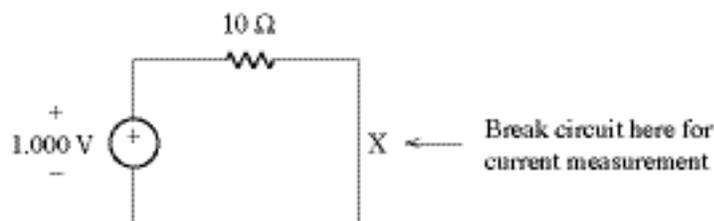

Figure 2: Circuit for Part B.
1. Obtain a  $10\text{-}\Omega$  resistor from a TA, then construct the circuit of Fig. 2. Use the + and - terminals of the 6-V supply, and set it to 1.000 V.
5. Break the resistor circuit at the point indicated by the “X” in Fig. 2. Use another DMM: Connect a test lead between the front-panel hole marked “I” and the resistor end at the break, and connect a test lead between the front-panel hole marked LO and the negative (-) supply end at the break. Configure the instrument as an ammeter by pressing “SHIFT” then “DC I.” Does the current reading meet expectations?